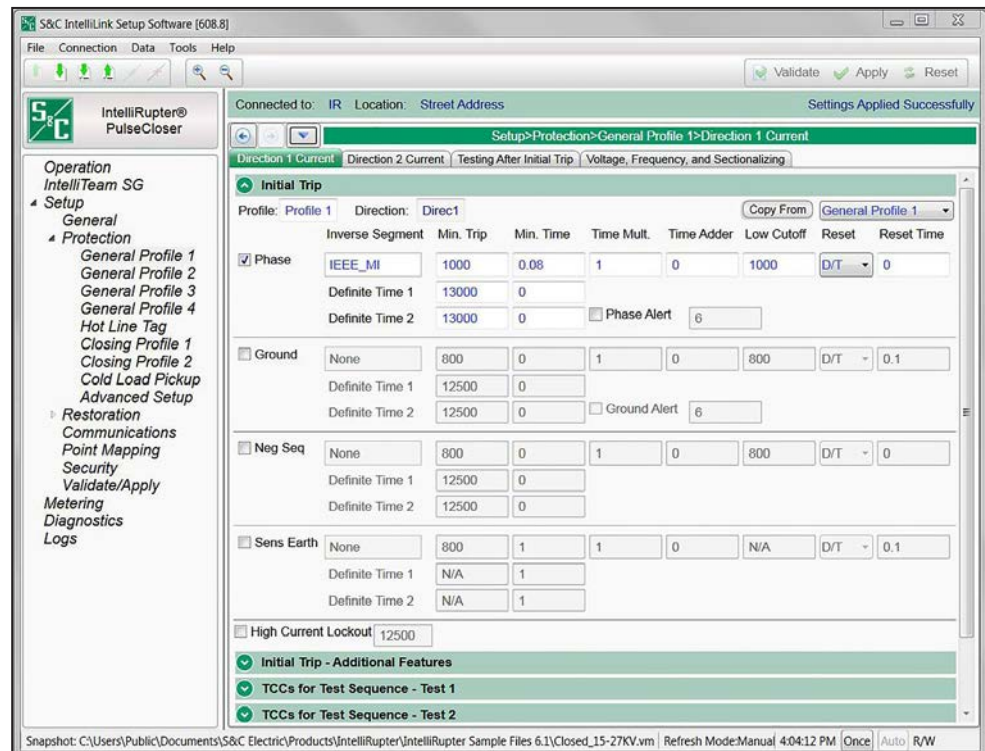

Figure 29. The *Setup>Protection>General Profile 1>Direction 1 Current>Initial Trip* screen.
- STEP 1.** Enter a custom profile name, up to 12 characters, for each of the four **General** Profiles. This entry is edited here (in the *Setup>Protection>General Profile 1>Direction 1 Current>Initial Trip* screen) and will be displayed on each screen and sub-screen for the profile. This label is also displayed on the *Main* screen for the active **General** profile. See Figure 29.